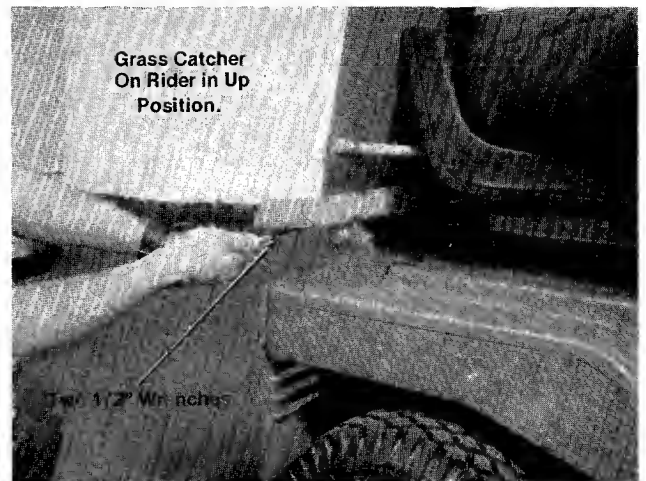

FIGURE 15.
9. Lift the grass catcher all the way up. Have someone hold grass catcher up or block up. Then with two ½" wrenches tighten hinge bracket bolts securely. See figures 15 and 16.